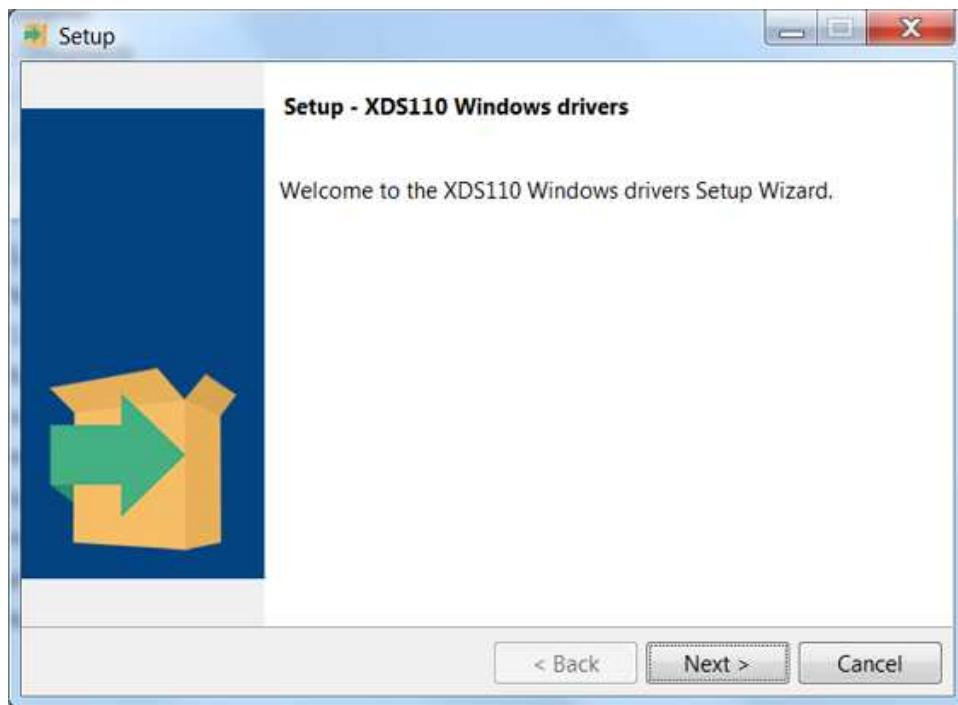

Figure 2-7. Set Up XDS110
1. Run the installer in administrator mode and click Next, as shown in Figure 2-7.